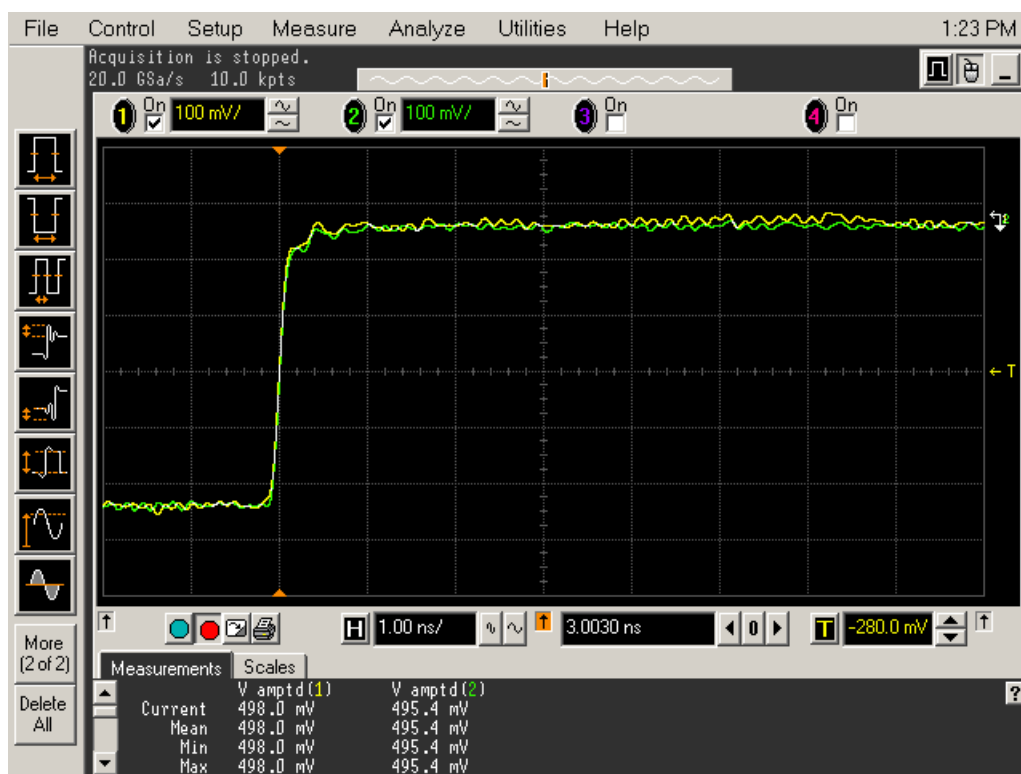

Figure 6 Overlapping Waveforms
- 22 In the Acquisition Setup dialog box enable averaging. When you close the dialog box, you should see waveforms similar to that in **Figure 6**.